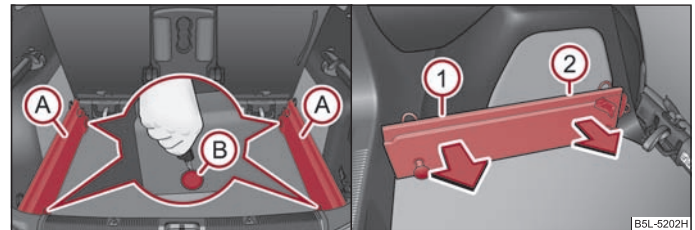

Fig. 77 Luggage compartment: Slacken check points/remove carrier rails
- Slacken the check points ② ⇒ fig. 77 on the carrier rails using the vehicle key or a flat screwdriver.
- Grasp the carrier rail ① at the position ① and slacken it by pulling in the direction of the arrow.
- Grasp the carrier rail ① at the position ②, slacken it by pulling in the direction of the arrow and take it out.